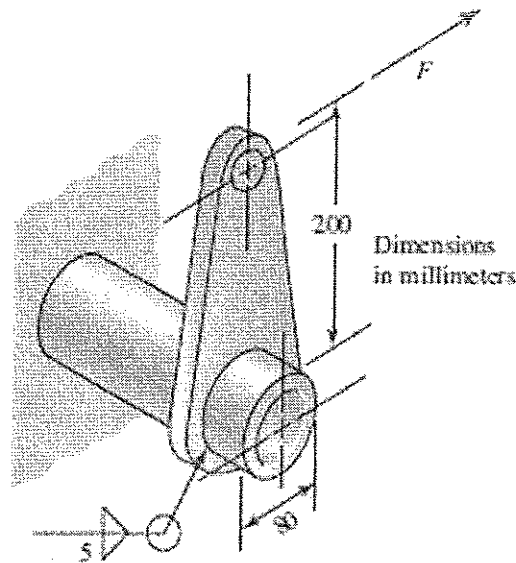

Fig.Q3
3. The permissible shear stress for the weldment shown in Fig.Q3 is 140 MPa. Estimate the load,  $F$ , that will cause this stress in the weldment throat. [5 M]
3. A connecting-link portion having stress concentration at three sections is shown in Fig. Q3. Neglect column action and find the radius of the fillet 'r' if the theoretical stress concentration factor is not to exceed 2.0 at the fillet. Also find the maximum stress at the fillet if the force  $F = 15$  kN. Take the thickness of the link as 10 mm. [3 M]